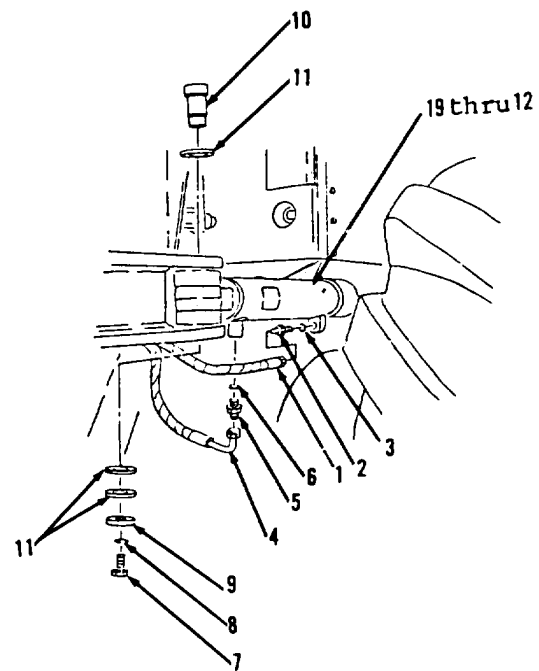

Figure 10-136.
8. Position items 19 thru 12 as an assembly (Figure 10-136) on rear, left side of front frame.
9. Install three washers (11) as required.
10. Align three washers (11), front frame mountings and cylinder (19) rod eye.
11. Install pin (10).
12. Install washer (9), lockwasher (8) and bolt (7).
13. Install new preformed packing (6) and connector (5).
14. Connect hose assembly (4).
15. Install new preformed packing (3) and connector (2).
16. Connect hose assembly (1).